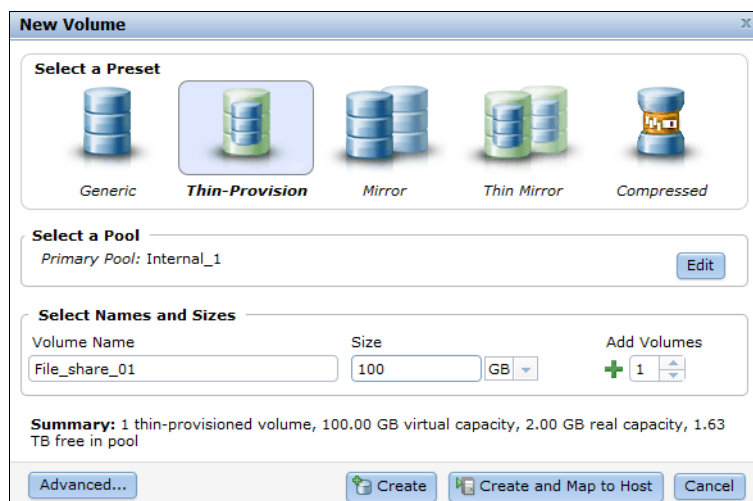
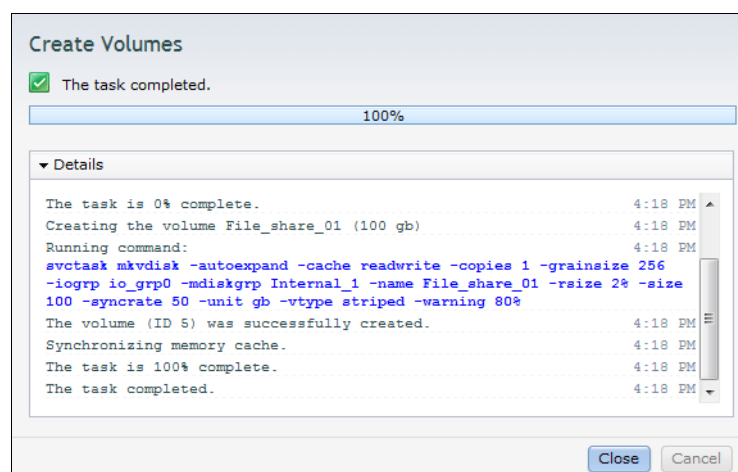

Figure 6-7 Enter the volume name and size
Figure 6-9 Create a thin-provisioned volume - CLI command displays
2. Select the pool in which the thin-provisioned volume should be created by clicking it and entering the volume name and size (Figure 6-7).
Make your choices, if required, and click **OK** to return to Figure 6-7 on page 246.
5. In Figure 6-7 on page 246, click **Create** and the creation task completes as shown in Figure 6-9.